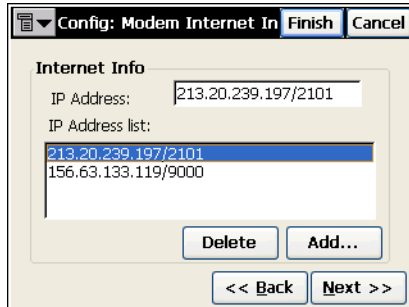

Figure 3-25. Modem Internet Info
- To use the Internal TopSURV NTRIP client, select *Controller*. Tapping **Next** will bring up the **Config: Modem Internet Info** screen (Figure 3-25 on page 3-18).